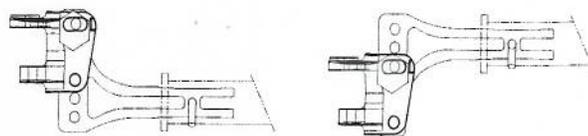

Fig. 2
4. Attach hitch ball to the ballmount (A). Standard height hitch balls with 1-1/4" shanks are supplied with lockwashers and nuts (If you must use a 1" shank ball, use bushing 58109 (B) to reduce hole size in ballmount (A) to 1"). Always use a lockwasher and place washer next to nut. Unless otherwise specified by ball manufacturer torque ball nut to 450 ft/lbs for 1-1/4" nut, 250 ft/lbs for 1" nut.
5. Some installations may require a longer draw bar (C). Extended bumper guards, pickup truck "caps", or rear mounted spare tires can limit turn angles unless a longer bar is used. Individual draw bars (C) are available in various sizes.
6. Insert the draw bar into the hitch box and install a pull pin (D) and spring clip (E). Place ballmount onto draw bar and move up or down for proper height. Draw bar may be used in either the up or down position (see Fig. 2).